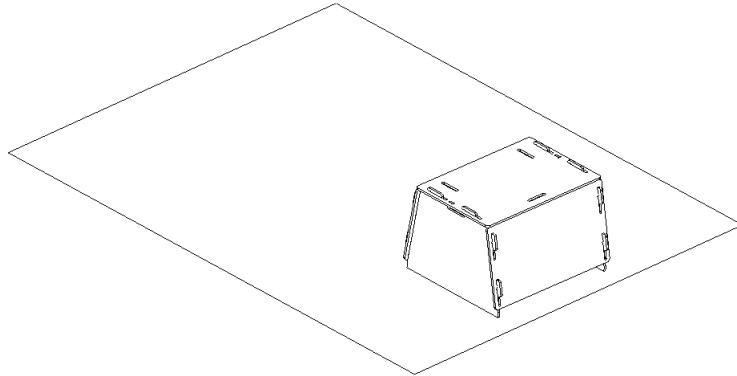

Figure 155: Scanner stand resting on a pattern.
2. Align the scanner stand with the rectangle marked on the pattern, paying close attention to the orientation of the slots in the stand cover (see *Figure 155*).